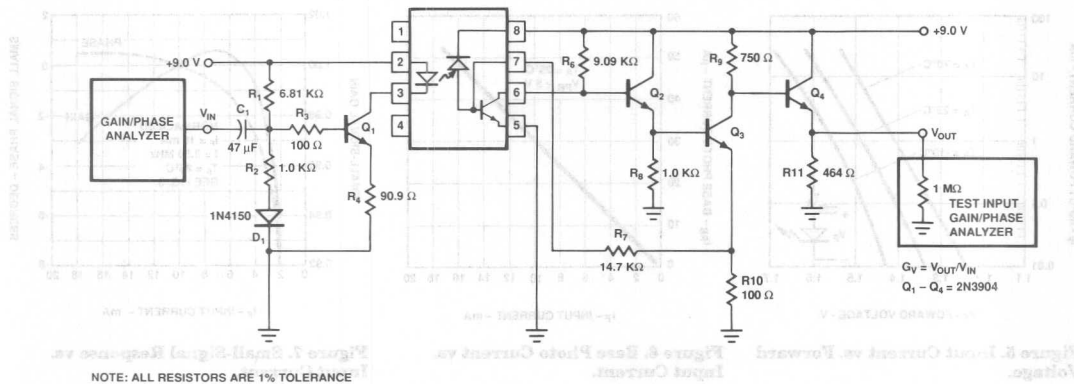
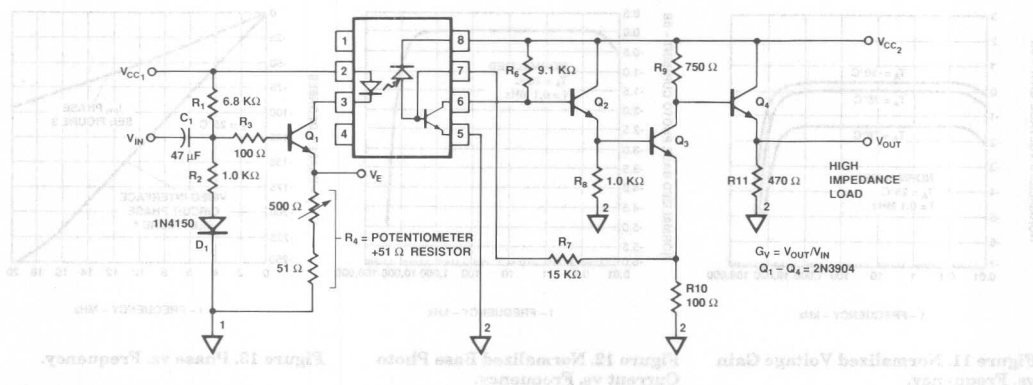

Figure 1. Gain and Bandwidth Test Circuit.
Figure 4. Recommended Isolated Video Interface Circuit.
1. When used in the circuit of Figure 1 or Figure 4, GV = VOUT/VIN.
- When used in the circuit of Figure 1 or Figure 4;  $G_V = V_{OUT}/V_{IN}$ ;  $I_{FQ} = 10\text{ mA}$ .
In order to obtain similar circuit performance when converting from the HCPL-4562 to the CNW4562, it is recommended to increase the Quiescent Input Current,  $I_{FQ}$ , from 6 mA to 10 mA. If the application circuit in Figure 4 is used, then potentiometer R4 should be adjusted appropriately.
The application circuit in Figure 4 incorporates several features that help maximize the bandwidth performance of the CNW4562. Most important of these features is peaked response of the detector circuit that helps extend the frequency range over which the voltage gain is relatively constant. The number of gain stages, the overall circuit topology, and the choice of DC bias points are all consequences of the desire to maximize bandwidth performance.